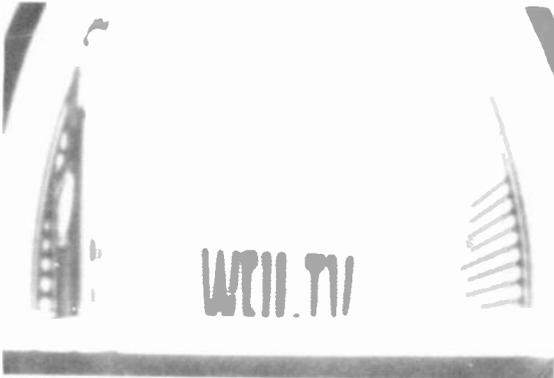

FIGURE 21-19 WHITE BAR AT BOTTOM, WITH FOLDOVER IN PICTURE, CAUSED BY COMPRESSION AT END OF SAWTOOTH WAVE FOR VERTICAL SCANNING.
**White bar across bottom.** This effect, shown in Fig. 21-19, is actually an extreme case of vertical nonlinearity. The end of the sawtooth trace is too flat, compressing lines at the bottom to form the white bar. With a picture, the information at the bottom is folded over. This trouble is generally caused by a weak output tube or incorrect bias. A common problem is a leaky coupling capacitor, which shifts the bias. As another cause, a low value of dc supply voltage can reduce the peak sawtooth current needed to pull the scanning down to the bottom of the screen.